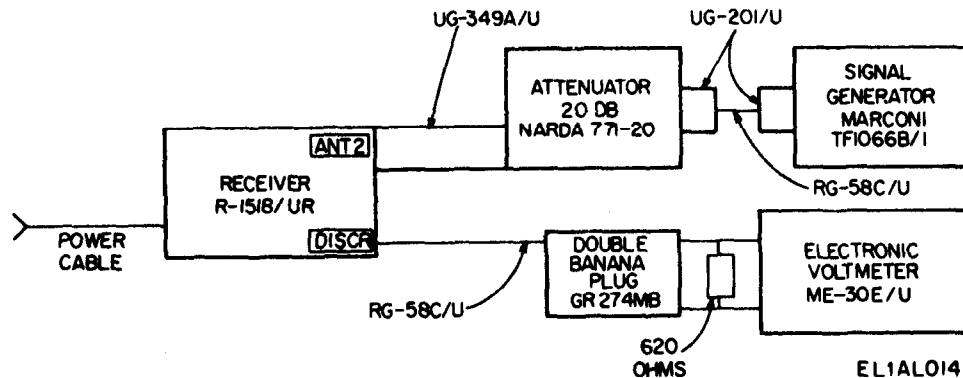

Figure 6-6. Discriminator output test connections.
(1) Perform a (1) above.
(2) Connect the test equipment as shown in figure 6-6.